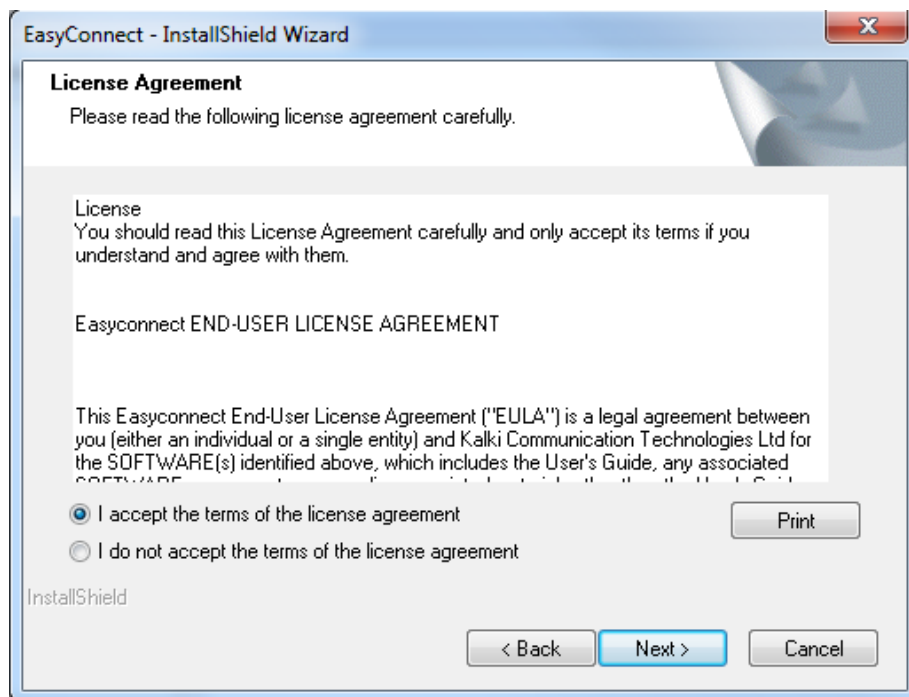

Figure E-6: License Agreement
4. The 'EasyConnect - InstallShield Wizard' opens on the 'License Agreement' window as shown in Figure E-6. Select **I accept the terms...** and click **Next** to continue.